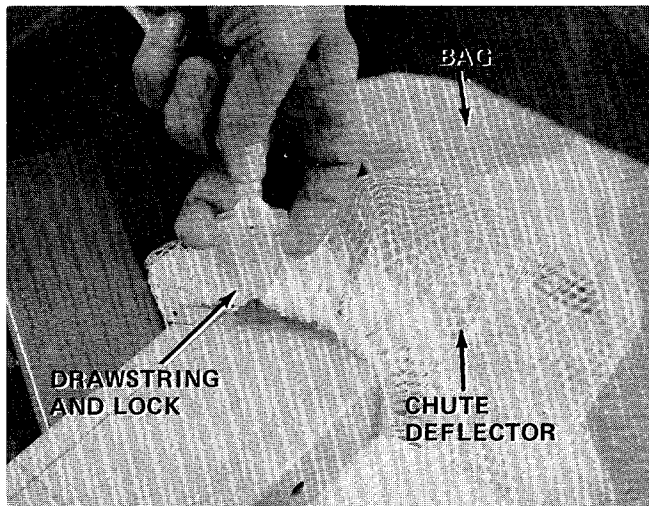

FIGURE 6
7. Place the bag over the chute deflector. Pull on the drawstring and lock. See figure 6.